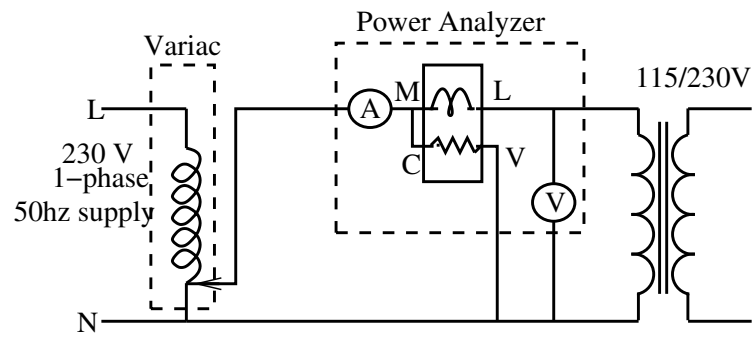

Fig.4 Circuit Diagram for No-Load Test
The shunt branch parameters can be determined by performing this test. Since, the core loss and the magnetizing current depend on applied voltage, this test is performed by applying the rated voltage to one of the windings keeping the other winding open (generally HV winding is kept open and rated voltage is applied to LV winding). The circuit diagram to conduct this test is shown in Fig.4. Since, the secondary terminals are open (no load is connected across the secondary), current drawn from the
- Connect the circuit as shown in fig.4.